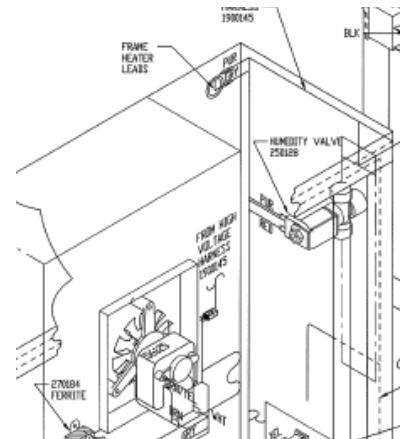

Figure 11-2. RH Air Filter
4. In the right side of the opening is the humidity system. Locate the RH air filter in the upper right corner (Figure 11-2). Disconnect from the tubing and replace.